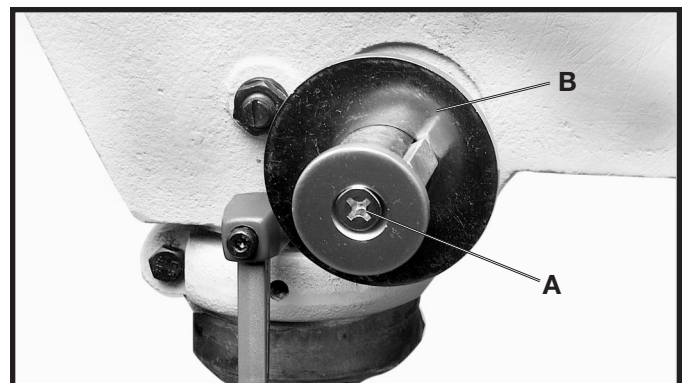

Fig. 17A
14. Remove screw (A) Fig. 17A, and flat washer (B).